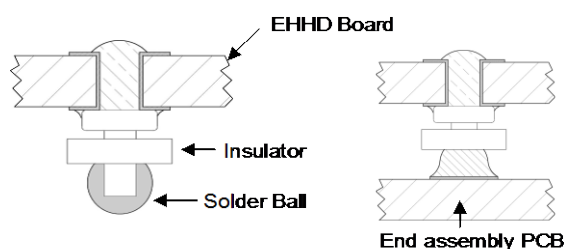

Figure 25. Column Pin Connector Before and After Reflow Soldering .
The surface mountable modules in the EHHD family use our newest SMT technology called "Column Pin" (CP) connectors. Figure 25 shows the new CP connector before and after reflow soldering onto the end-board assembly. The CP is constructed from a solid copper pin with an integral solder ball attached, which is composed of tin/lead (Sn/Pb) solder for non-Z codes, or Sn/Ag₃/Cu (SAC) solder for -Z codes.